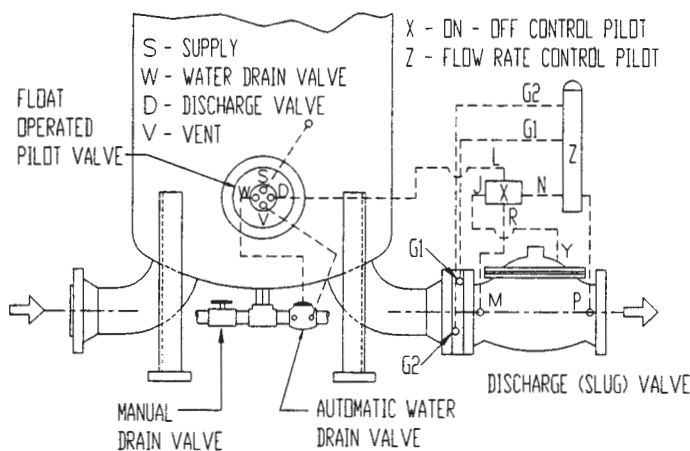
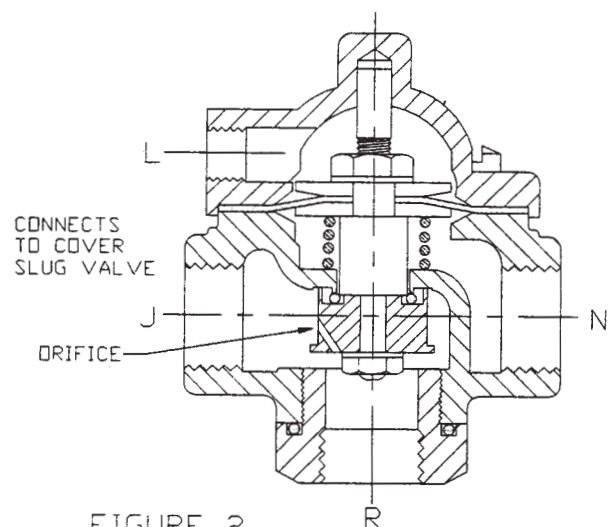
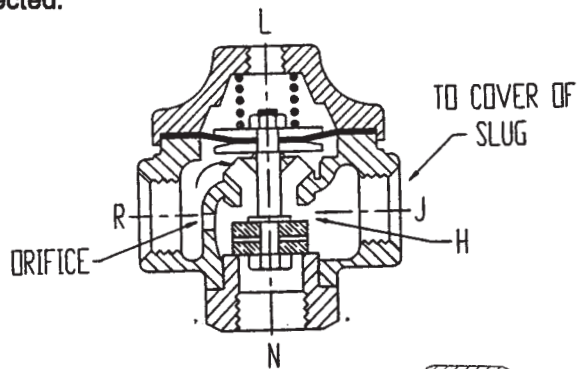

FIGURE 1
FIGURE 2
FIGURE 4
In Fig. 1, there are two pilot valves shown, X and Z. X is an On-Off pilot valve and the other (Z) controls the rate of flow. Watts*, Smith and Oil Capital make On-Off pilot valves that are similar. Each requires a pressure signal to cause the slug valve to open. A pilot of this type is shown in Fig. 2 in the closed position. Note that pressure from the supply port M is directed to Y, the cover of the slug valve, to close it. In other words, pressure from M goes through port R, then port J and to port Y on the cover. If control pressure from the float operated pilot valve is applied at port L to open the on-off pilot, the slug valve cover is vented through ports Y, J and N of the on-off pilot into port P. The slug valve then opens because system inlet pressure at M is greater than outlet pressure at P.
The Cla-Val system is exactly the same, except that the On-Off pilot (Fig. 4) works in the reverse of the one in Figure 2. In the position shown, control pressure is being applied at L. Supply pressure at R goes thru J and directly to the slug valve cover through port Y to block fuel flow through the main (slug) valve. To open the slug valve, L must be vented so that pressure at R will lift the diaphragm and close port H. The orifice then supplies "pilot" flow and all other functions are the same as described for other brands. The slug valve cover is vented through port J to N and then to P.
When slug valve problems occur, our experience has been that diaphragm failures are the primary cause. These are easy to find. Disconnect the fitting at Y and turn on the pump. Continuous flow from the slug valve cover means a diaphragm failure. A failure of the On-Off pilot diaphragm in Figure 2 can be detected by disconnecting the fittings at N and L. Apply pressure at N and look for leakage at L. A failure in the rate of flow pilot diaphragm is found by disconnecting one of the orifice pressure fittings, G₁, or G₂. Leakage indicates failure of the diaphragm.
We have reproduced Tables 2 and 3 from GamGram 10 so that you can follow a typical troubleshooting problem. We cannot review all failure modes for all brands, but this one shows the reasoning technique. You have Cla-Val equipment and the slug valve will not open. Disconnect the fitting at L in Figure 4. If flow comes out of the tube, the float is up so water is in the sump and that is the reason the slug valve will not open. If the automatic water drain valve will not open, its diaphragm may be found to be leaking and water flow will be found in the vent tubing from the float valve. If the On-Off pilot diaphragm had failed, a fuel flow would have been found in the vent before the fitting at L was disconnected.